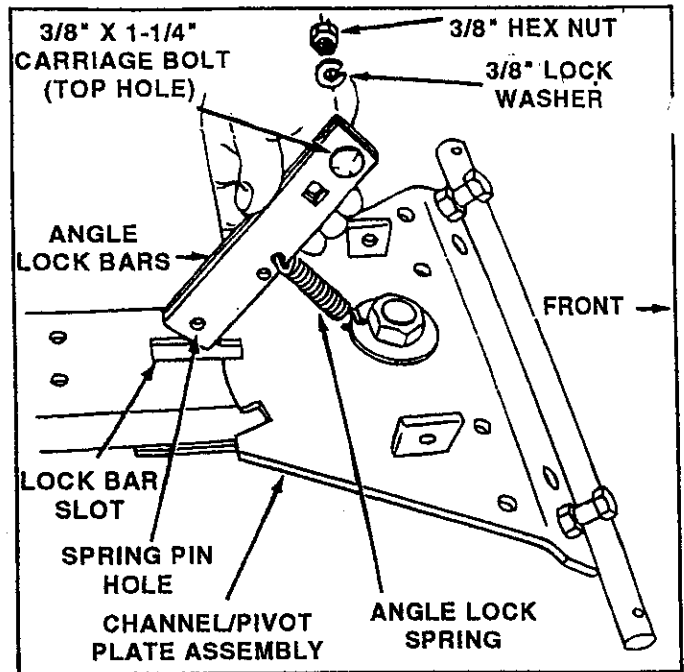
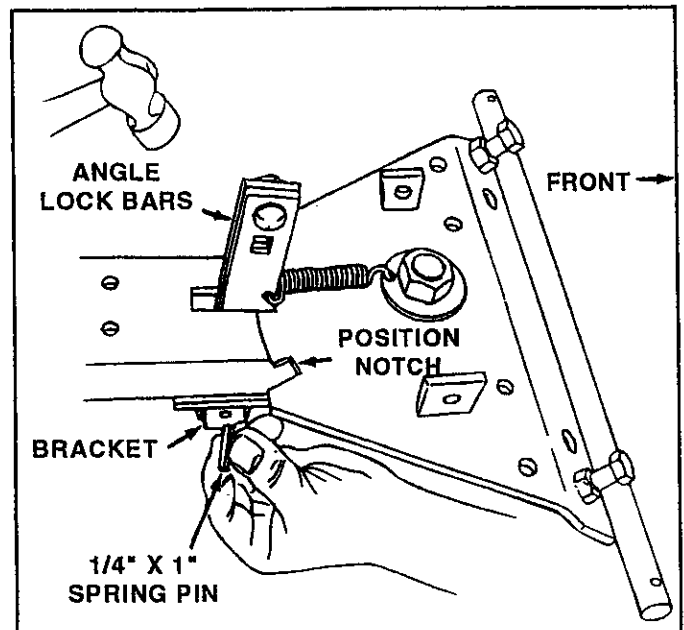

FIGURE 3
FIGURE 4
2. Assemble the two angle lock bars together as shown in figure 3, using one 3/8" x 1-1/4" carriage bolt down through the top holes with a 3/8" lock washer and a 3/8" hex nut underneath. Do not tighten at this time.
3. Assemble the offset end of angle lock spring into small holes in angle lock bars as shown in figure 3. Slide lock bars through lock bar slot until spring pin hole is aligned with bracket on back side. See figure 4. Using a hammer drive 1/4" x 1" spring pin into lock bars until flush with bracket. See figure 4. Tighten nut in angle lock bars which was left loose in step 2.